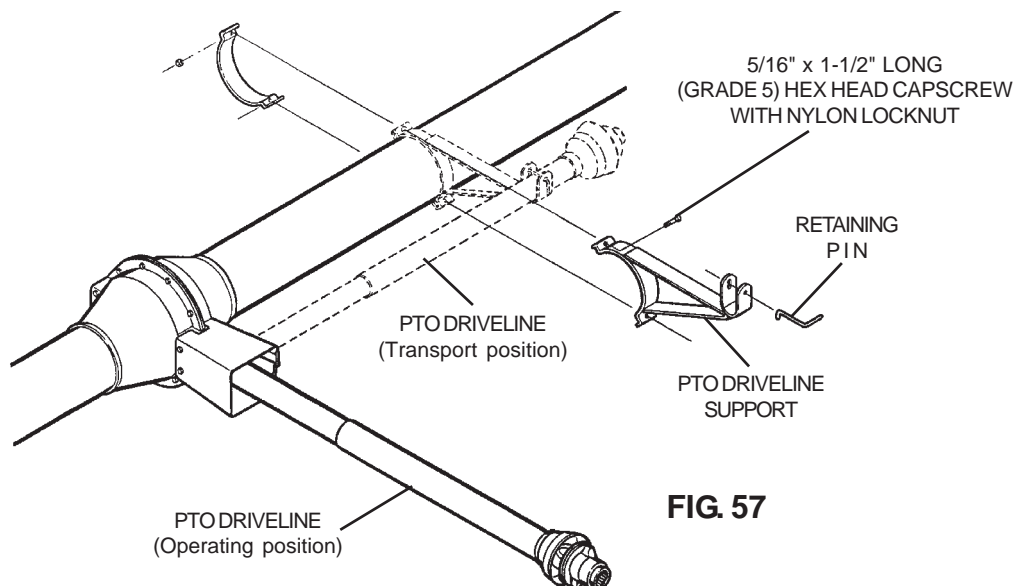

FIG. 57
4. Place the PTO driveline support 51" from the center of the gearbox (on the discharge end of the drive housing). Secure that support to the tube with a halfband and two 5/16" x 1 1/2" long (grade 5) hex head capscrews and nylon locknuts. See Fig. 57. **IMPORTANT:** Do not install the support where the bands will cover any safety signs on the auger housing.
8. Remount the PTO driveline support onto the other side of the tube. See Fig. 57 on page 42.